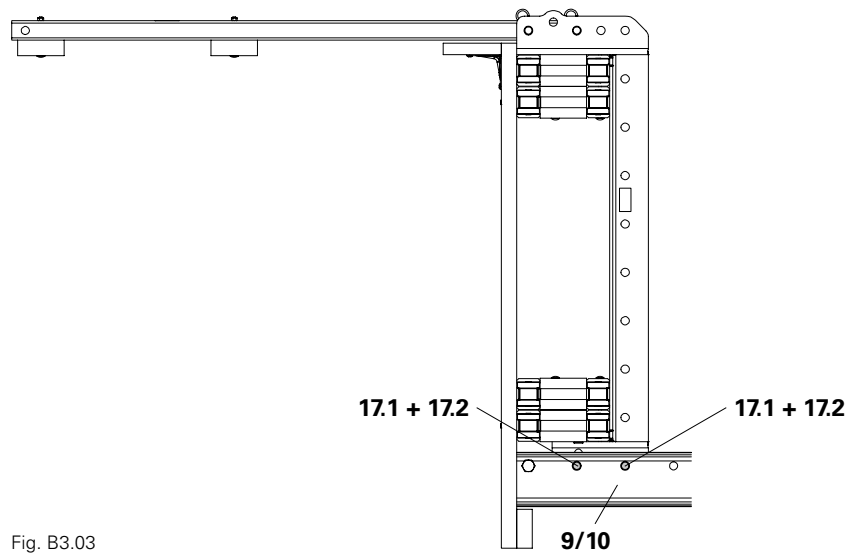

Fig. B3.03
3. Bolt Platform Beam SCS 120 (**17**) using 2x fitting pins  $\varnothing 21 \times 120$  (**17.1**) per strongback (**9/10**) respectively and secure with cotter pins 4/1 (**17.2**). (Fig. B3.03)